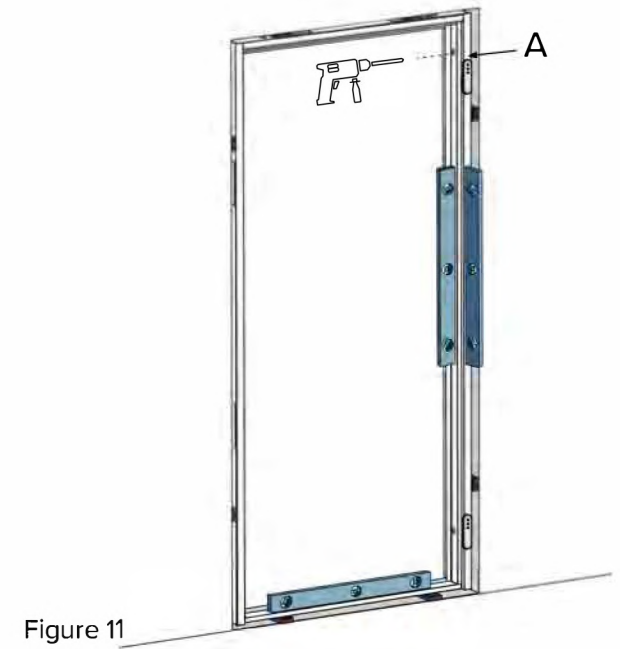

Figure 11
3.6. Drill a Ø10 mm 120-130 mm deep hole through the upper mounting hole on the hinge side of the frame (A) (figure 11).